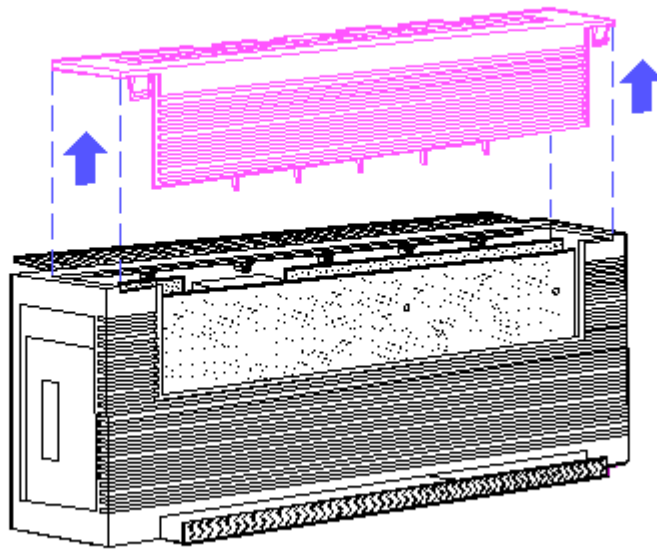

Figure 8-104. Opening the Expansion Unit Cover
8. Remove the expansion unit cover (Figure 8-104).